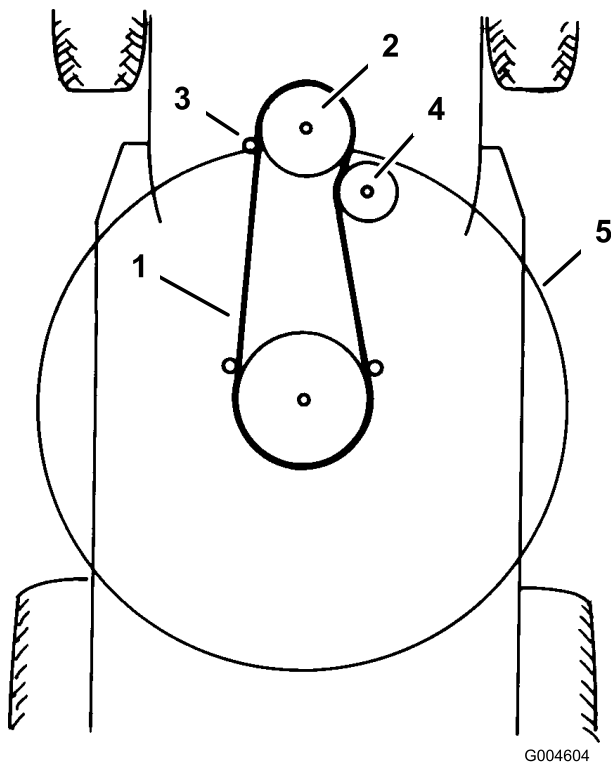

Figure 43
18. Remove the mower belt from the lower engine pulley (Figure 43).
10. Install the mower belt onto the lower engine pulley (Figure 43).